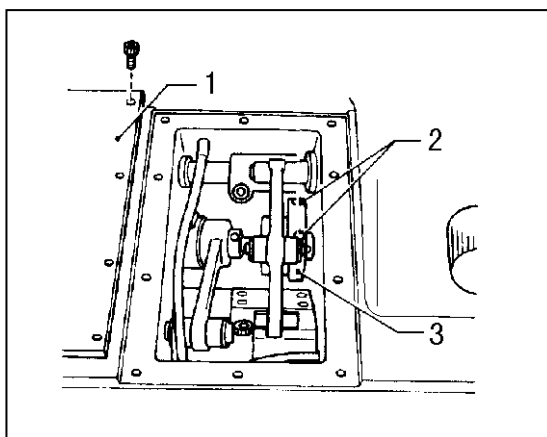

Fig.28
### (1) Horizontal feed direction (showed by Fig.28)